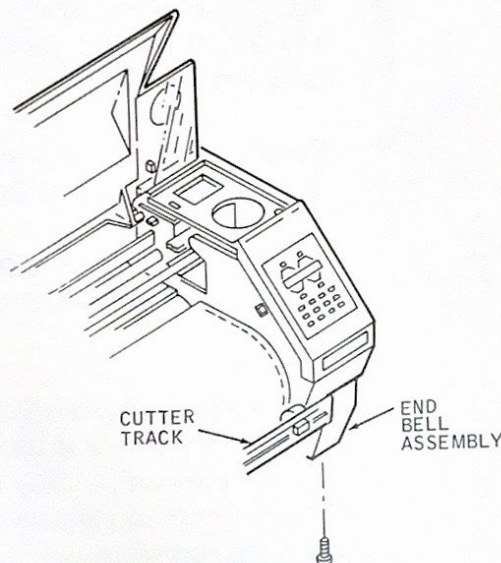

Figure 7-2. Plotter End Bell
1. Remove the retaining screw from the bottom of the control panel side endbell. (See Figure 7-2). Remove the endbell.